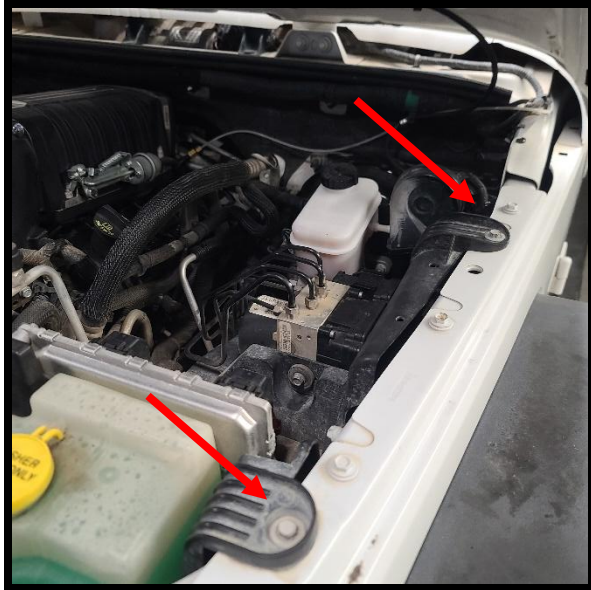

Figure 8
- 3-A) Under the hood, remove the three (3) bolts indicated below in **Figures 8 and 9**. The lower bolt also requires the removal of the nut on the back side from the inner fender (**Figure 10**). Place some sort of spacer under the plastic tab as shown in **Figure 11**. This will allow access to the underside for installation of the air locker manifold assembly.